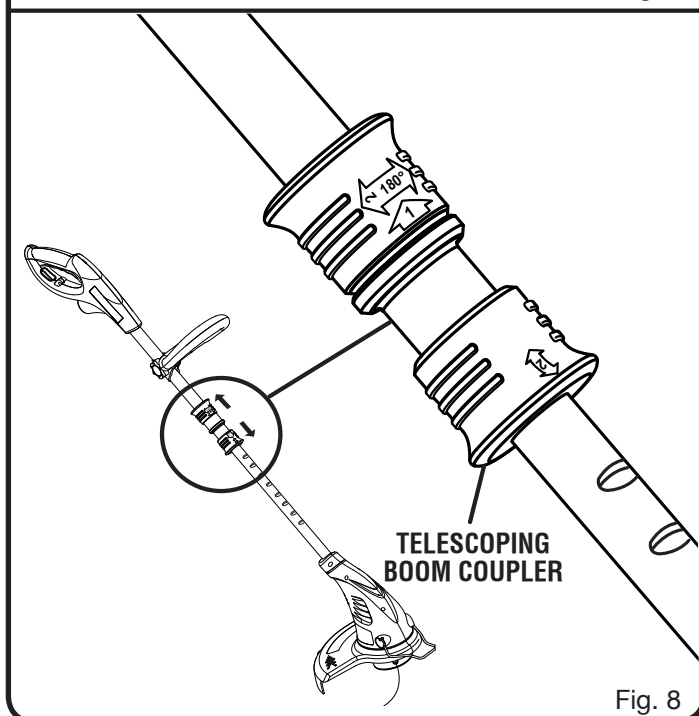

Fig. 8
- The string trimmer cuts when passing the unit from left to right. This will avoid throwing debris at the operator. Avoid cutting in the dangerous area shown in figure 8.
See Figure 8.